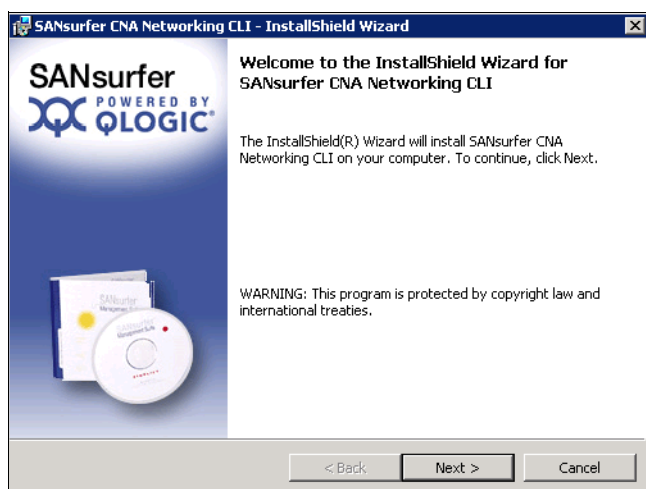

Figure 7-73 Welcome window
2. In the Welcome panel (Figure 7-73), click **Next**.